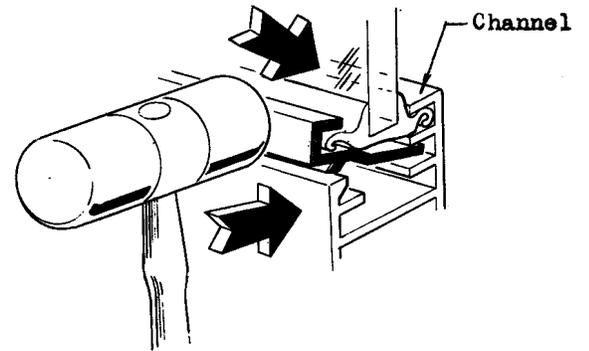

Fig. 15
2. Insert entire strip under gasket as shown. Push and tap strip into place with plastic hammer, starting about 2" from either end and working to opposite end (Fig. 15).